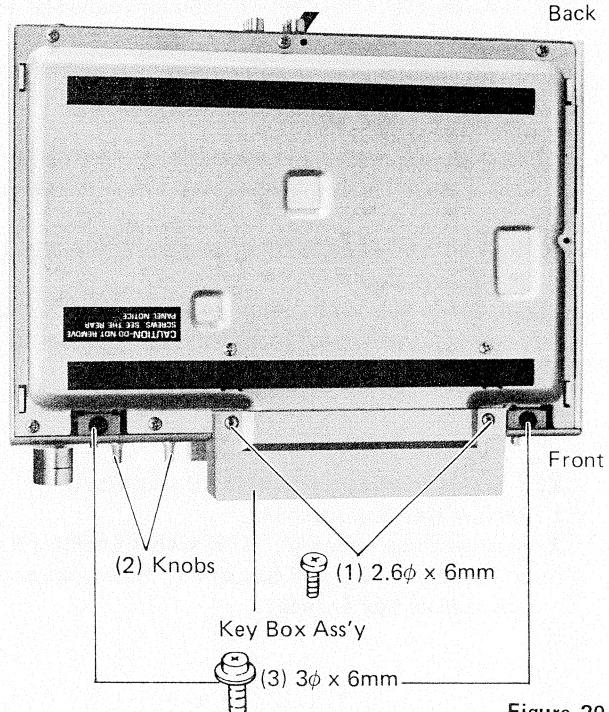

Figure 20
2. Remove two select knobs (2) as shown in Figure 20.
3. Remove two screws (3) ($3\phi \times 6mm$) holding bottom plate and panel from back side and two screws (4) ($3\phi \times 6mm$) holding jack plate and panel from back side as shown in Figure 20 and 21.